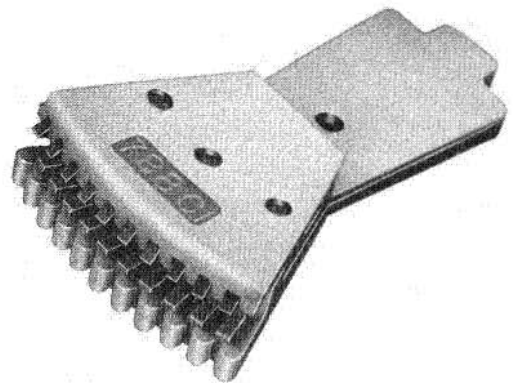

Fig. 11—788C1 Tool, 5-Pair Cutoff Tool
**2.16** The 788C1 cutoff tool head (Fig. 11) mounts in the 788A1 tool handle and is used to cut five cable pairs at one time on the index strip after proper insertion.